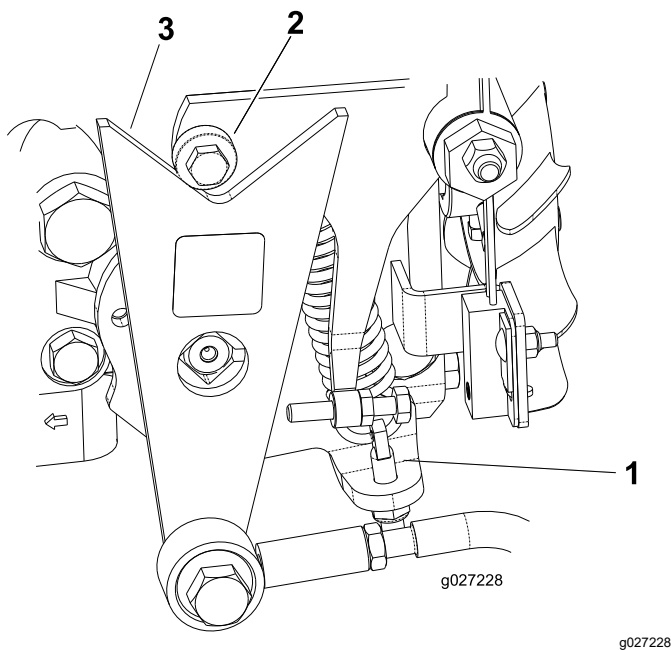

Figure 43
- If the wheels rotate in the proper direction, shut off the engine and adjust the spring-adjusting pin locknut (Figure 43). Adjust the traction neutral position; refer to Adjusting the Traction Drive for Neutral (page 33).